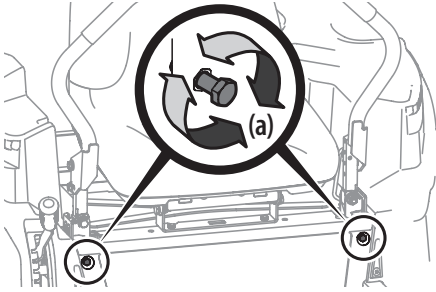

Figure 41
2. Locate the lapbar drive control lever stop adjustment bolts (a) on the front of the seat frame. See Figure 41.
3. To decrease the forward speed, turn the lapbar drive control lever stop adjustment bolts (a) clockwise. To increase the forward speed, turn the lapbar drive control lever stop adjustment bolts (a) counter-clockwise. Turn the lapbar drive control lever stop adjustment bolts (a) in the necessary direction 1/4-turn at a time. After turning the lapbar drive control lever stop adjustment bolts (a), check the adjustment by driving the tractor. See Figure 41.